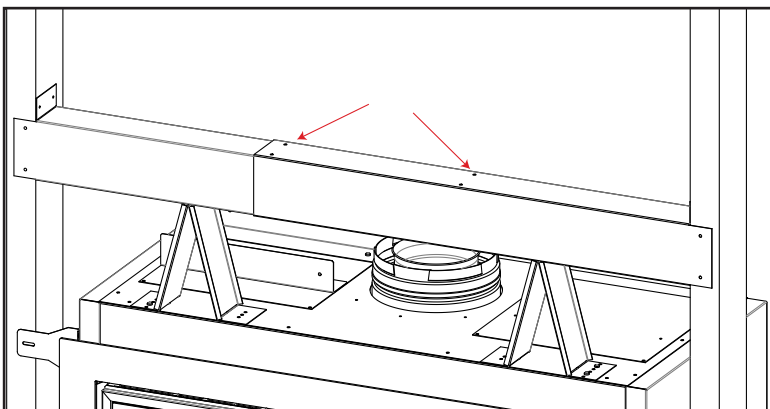

Figure 16: Steel Stud Installation
3. Using the provided sheetmetal screws, attach the two steel stud pieces together using the labeled holes in Figure 16. This should be done on the top and bottom of the steel stud to ensure its rigidity.